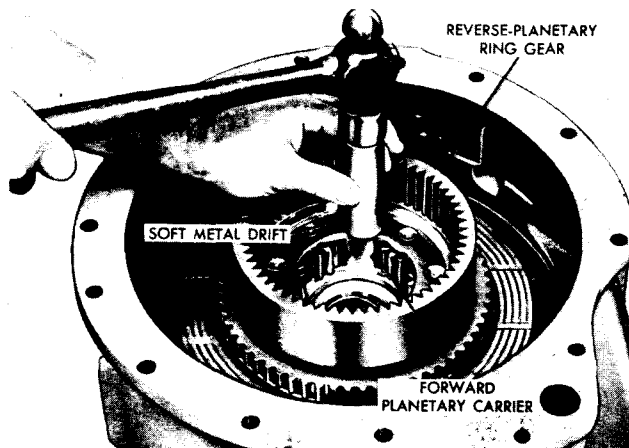

Fig. VII-13. Installing forward planetary carrier assembly ^{S2448}
(4) Install the forward carrier assembly and, with a soft metal drift, seat it in its ball bearing (fig. VII-13).